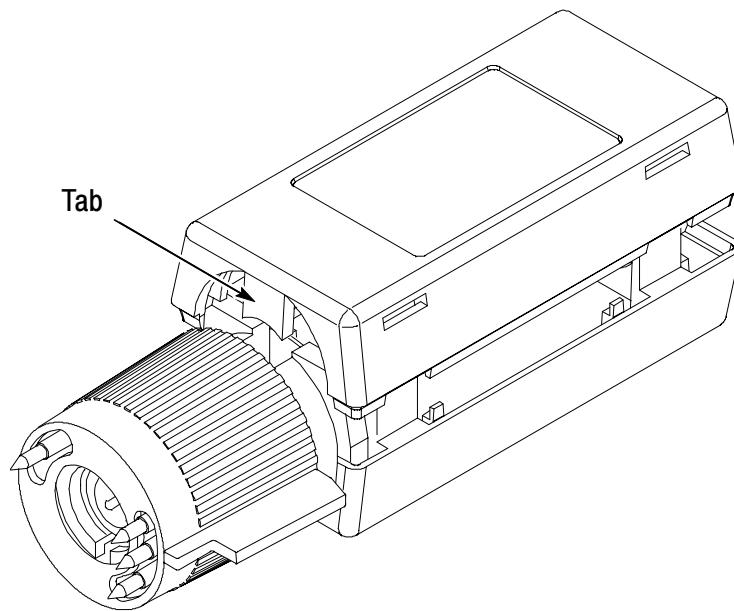

Figure 10: Replacing the Compensation Box Cover
1. Align the TEKPROBE interface and the strain relief notches with the tabs on the cover. Refer to Figure 10.